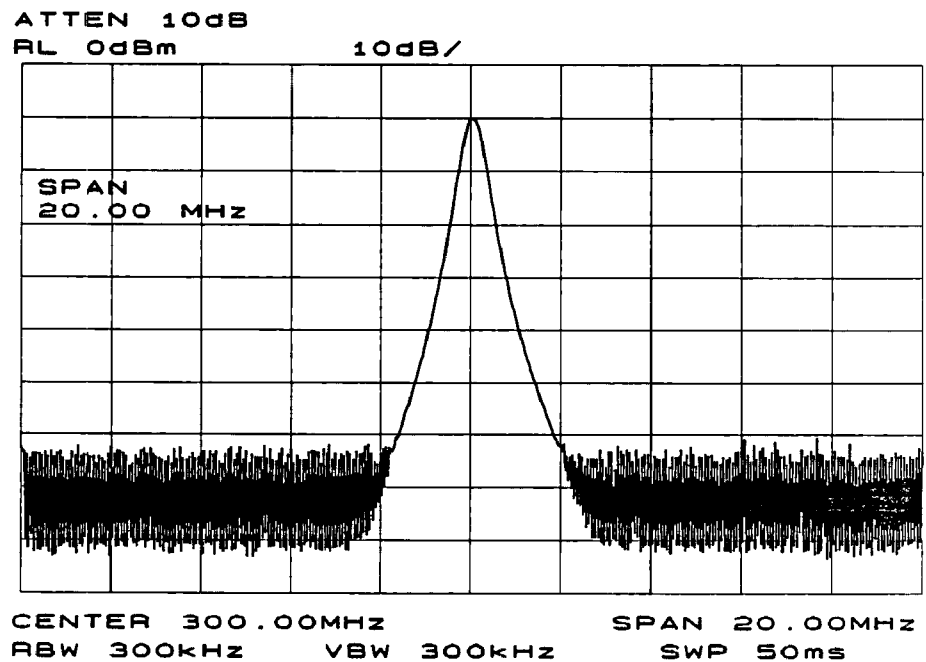

Figure 1-6. Frequency Span Reduced to 20 MHz
- Set the frequency span. Press **SPAN**. Note that SPAN is now displayed in the active function block, identifying it as the current active function. To reduce the frequency span—for example, to 20 MHz—either key in **20 MHz** or use the step down-arrow key to “step down” to this value. (Like data keys, step keys can also be used to change the numeric value of the active function.) The resulting display is shown in Figure 1-6. Note that the resolution and video bandwidths are coupled to the frequency span; they are automatically adjusted to appropriate values for a given span. Sweep time is also a coupled function.